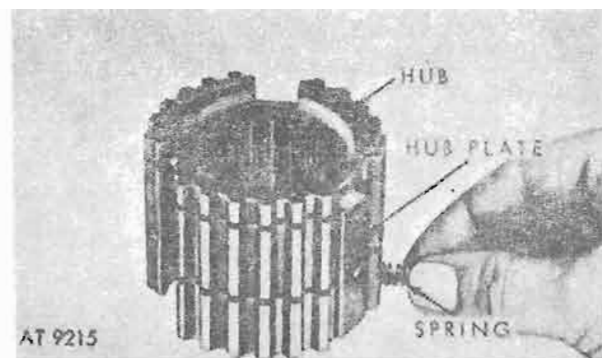

Figure 8-82. Hub plates and springs.
c. Remove three plates and springs from hub (fig. 8-82).
a. Position parts to be sure of correct assembly. Synchronizer blocking ring will seat only in deeply recessed end of synchronizer hub; note position of first speed gear. Refer to figures 8-82, 8-84, and 8-85.
c. Install plates and springs to synchronizer hub. Refer to figure 8-82.